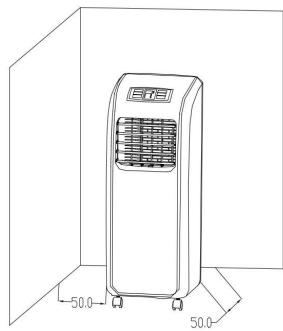

Figure 9
- (1). Move the machine with the heat exhaust hose assembly installed before the window and keep the unit at least 50cm away from the walls or other objects. (As shown in Figure 9).